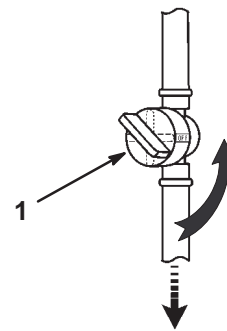

Figure 32
5. Turn off the fuel shut-off valve (Fig. 32).